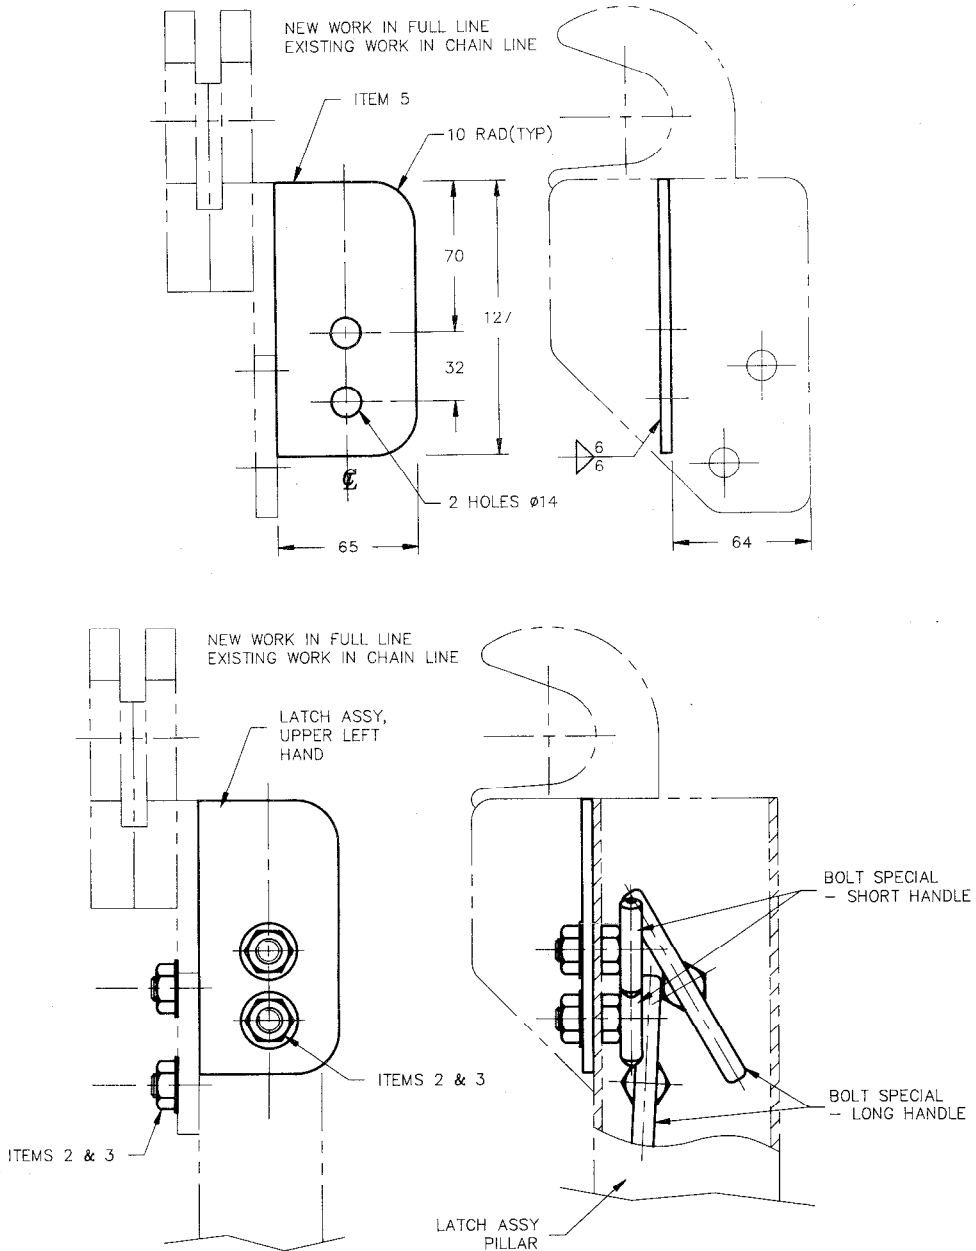
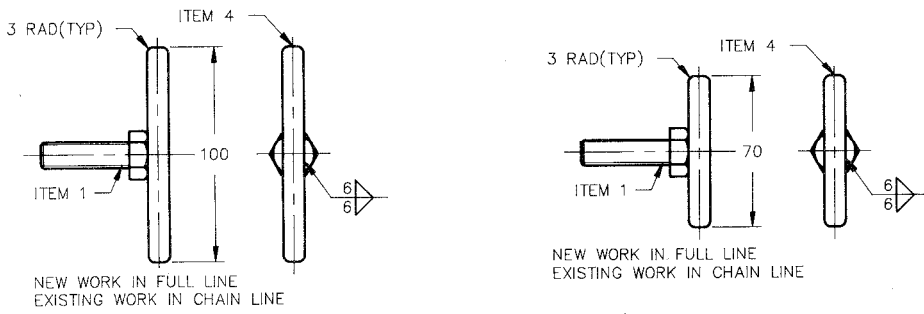
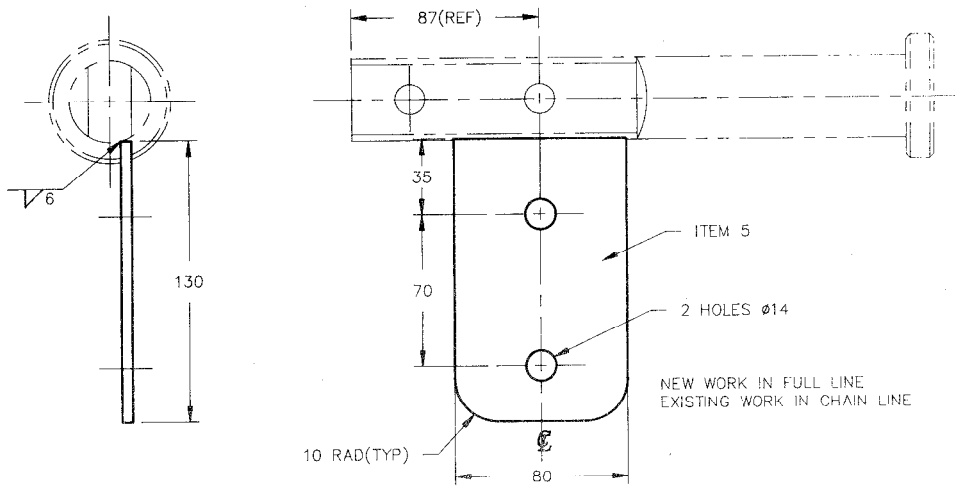

Figure 1 - Tailgate Latch Assembly
Figure 2 - Bolt Special Short & Long handle
Figure 3 - Tailgate Latch Peg
- a. Drill two holes in plate, item 5 from Table 1, as per Figure 1.
- b. Weld plate, item 5 to existing tailgate latch assembly, as per Figure 1.
- e. Grind off Huck fasteners holding the tailgate latch, remove tailgate latch and clean and paint in accordance with WORKSHOP D 700. Replace with bolts, item 1 from Table 1.
- f. Before placing bolts into the pillar, weld a retaining bar across the head of the bolt, as per Figure 2.
- g. Insert bolts with retaining bar from inside pillar, tighten bolt using washers and nuts, items 2 and 3 from Table 1.
- h. Drill holes in plate, item 6 in Table 1 as per Figure 3.
- i. Weld plate item 6 to existing tailgate latch peg as per Figure 3.
- k. Grind off existing Huck fasteners, remove tailgate latch peg, clean and paint in accordance with WORKSHOP D 700, and replace with bolts, washers and nuts, items 1, 2, 3 and 7 from Table 1.